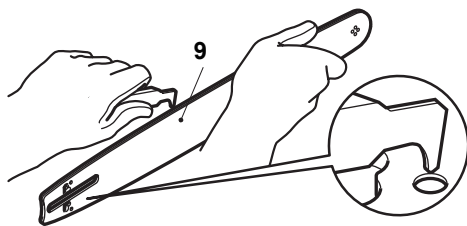

Fig. 40
3. Check the drive sprocket (7). If it is worn or damaged due to strain, have it replaced by an authorised service agent or a similarly qualified person.
4. Clear residue from the rails on the guide bar (9) by using a screwdriver, putty knife, wire brush or other similar tool. This will keep the oil passages open to provide proper lubrication to the guide bar (9) and saw chain (8) (Fig. 40).